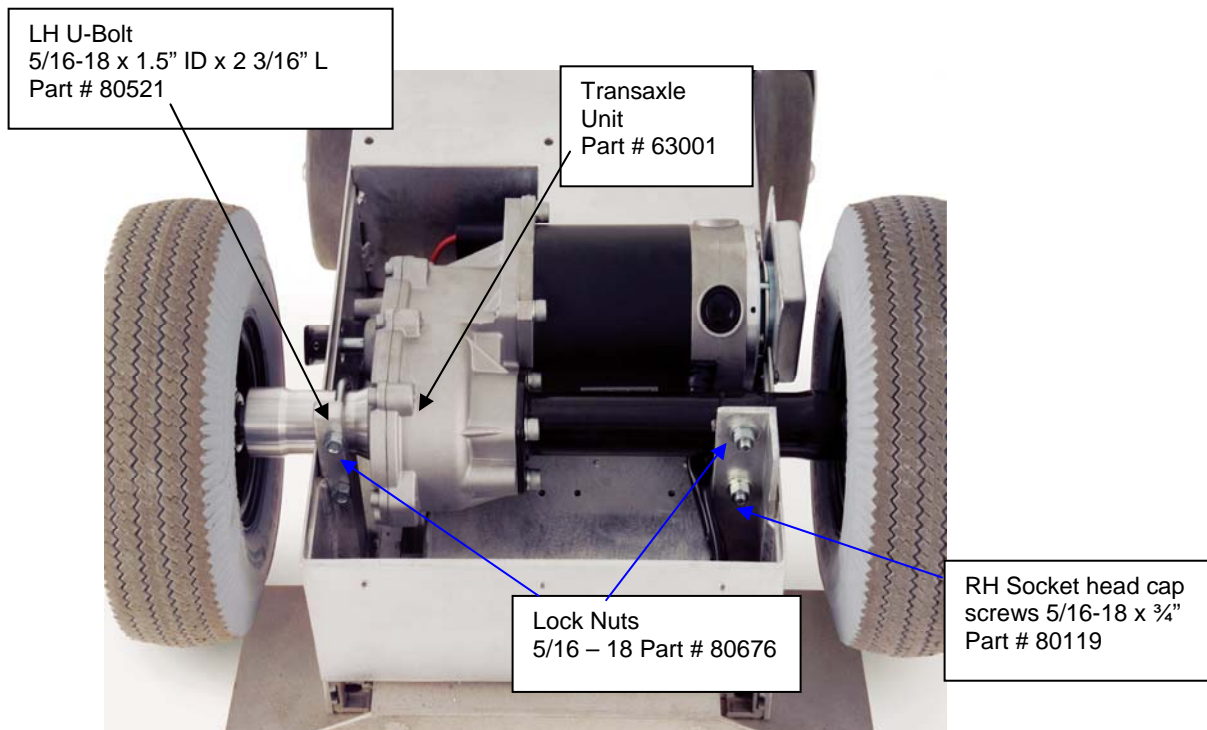
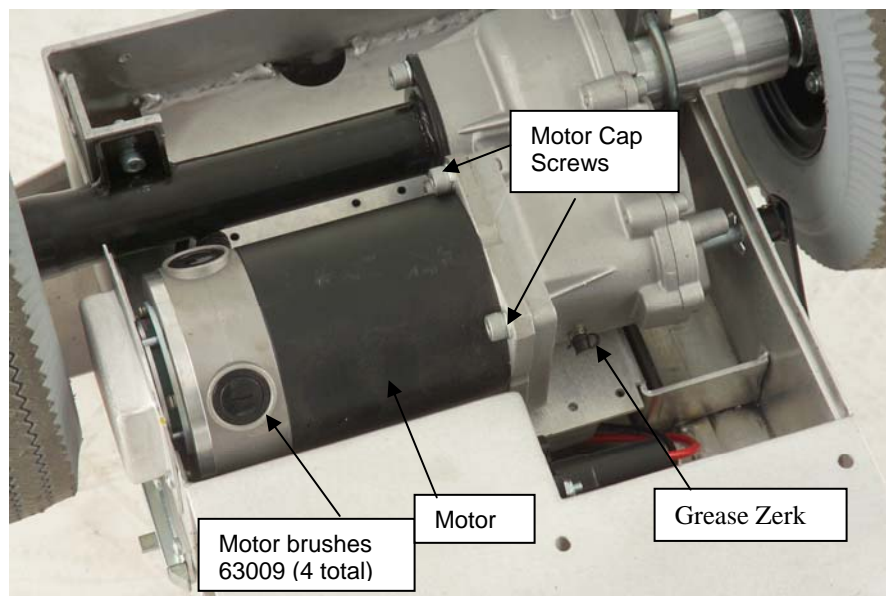

Fig. 7f
Fig. 7g
- Unbolt the unit via the zinc plated LH U-bolt, the RH screws and nuts (Fig. 7f). Lift the transaxle out and place on a clean work surface. Take note as to the location of the grease zerk fitting on the gearing portion. (Fig. 7g) More information as to the lubrication of this port is found in the maintenance section of this manual.
- Remove the motor using the four metric motor cap screws as shown below. Note the position of the motor wires for reassembly. (Fig. 7g)